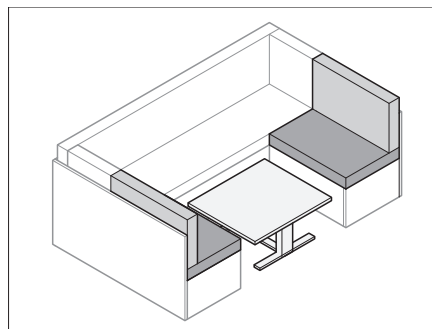

Fig. 73 Converting the table
- Convert the table (Bild 73) into a bed foundation (see Section 6.8).